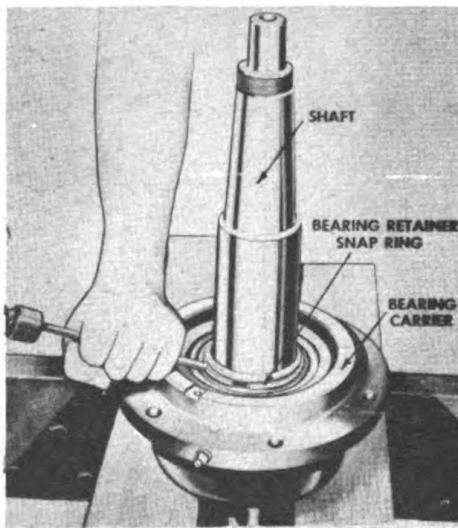

Figure 310. Removing Bearing Snap Ring
F. Remove the bearing retainer housing snap ring as shown in Figure 310. If necessary, remove the race from the bearing retainer housing. If the bearings must be removed from the shaft, the inner races will have to be pressed with a hydraulic press, having a capacity of 15 tons.
D. Install the snap ring see Figure 310 and install the threaded bearing retainer screwing it down so that thread is slightly below flush.